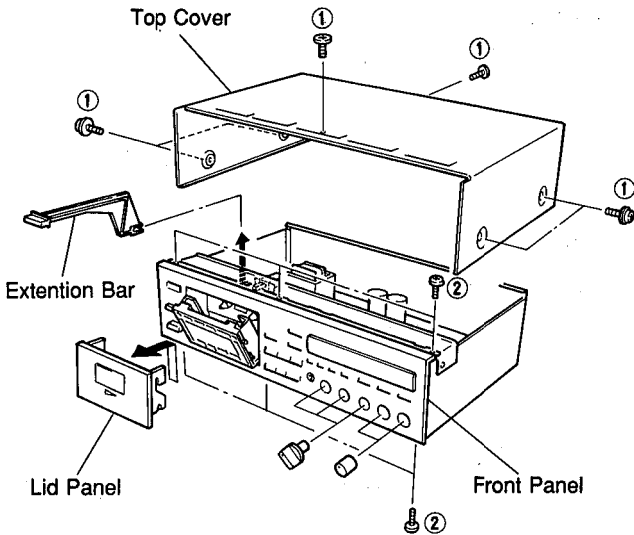

Fig. 1
Remove 6 screws (①) in Fig. 1.
- Remove the Extension Bar in Fig.1.
- Remove 6 screws (②) in Fig.1.